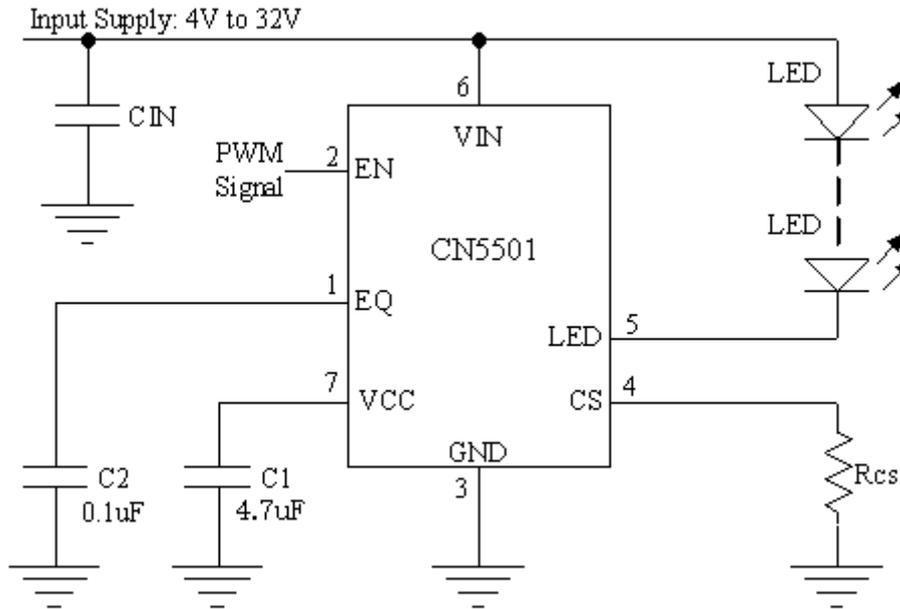

Figure 2 PWM Dimming
The CN5501 provides pulsed or chopped current dimming. Generally, high-brightness LEDs are binned to match at their full-rated current. However, LEDs from the same bin exhibit poor matching at currents other than full-rated current. To achieve uniformity, high brightness LED manufacturers recommend PWM pulsing of the LED current at their full-rated value. This can be achieved by pulsing the enable input (EN) while having a constant voltage at  $V_{IN}$ , as shown in Figure 2. The PWM signal frequency should be less than 300Hz.